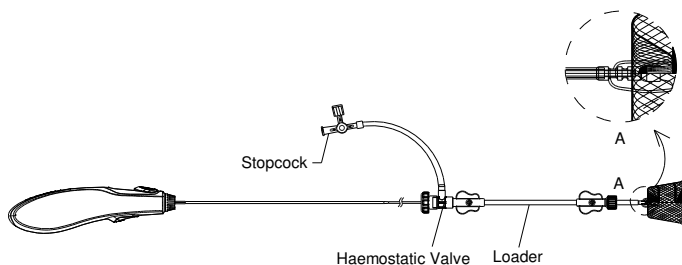
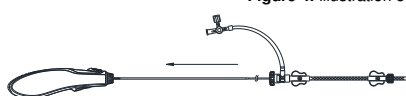

Figure 4. Illustration of CeraFlex™ PDA Occluder System
Figure 5. Illustration of loading the device into a loader
- Carefully check the connection between the occluder and the delivery cable (Refer to **Figure 4**). Immerse the device and the loader in saline solution and pull the CeraFlex™ PDA Occluder into the loader with a quick jerking motion (Refer to **Figure 5**).